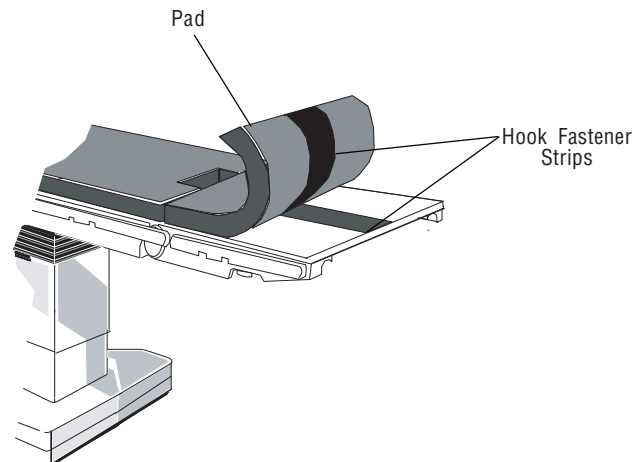

Figure 4-11. Tabletop Pads
Mattress pads are backed with hook fastener strips which fasten to companion strips on the tabletop (see Figure 4-11).
1. To install tabletop pad, place pad in position and press hook fastener strips together (see Figure 4-11).